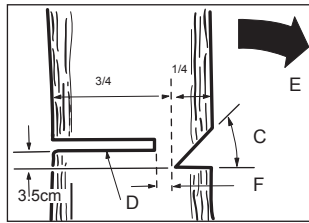

FIG. 1
Usually, felling a tree consists of two main cuts, the face cut (C Fig. 1) and the undercut (D. Fig. 1), which is needed to fell the tree.
- Begin with the face cut (C) on the side of the tree facing the direction of the fall (E).
- The cut must be as deep as about  $\frac{1}{4}$  of the trunk diameter (F).
- After this operation, make the cut (D) on the other side of the tree at about 3-5 cm above the height of the face cut (Fig. 1).